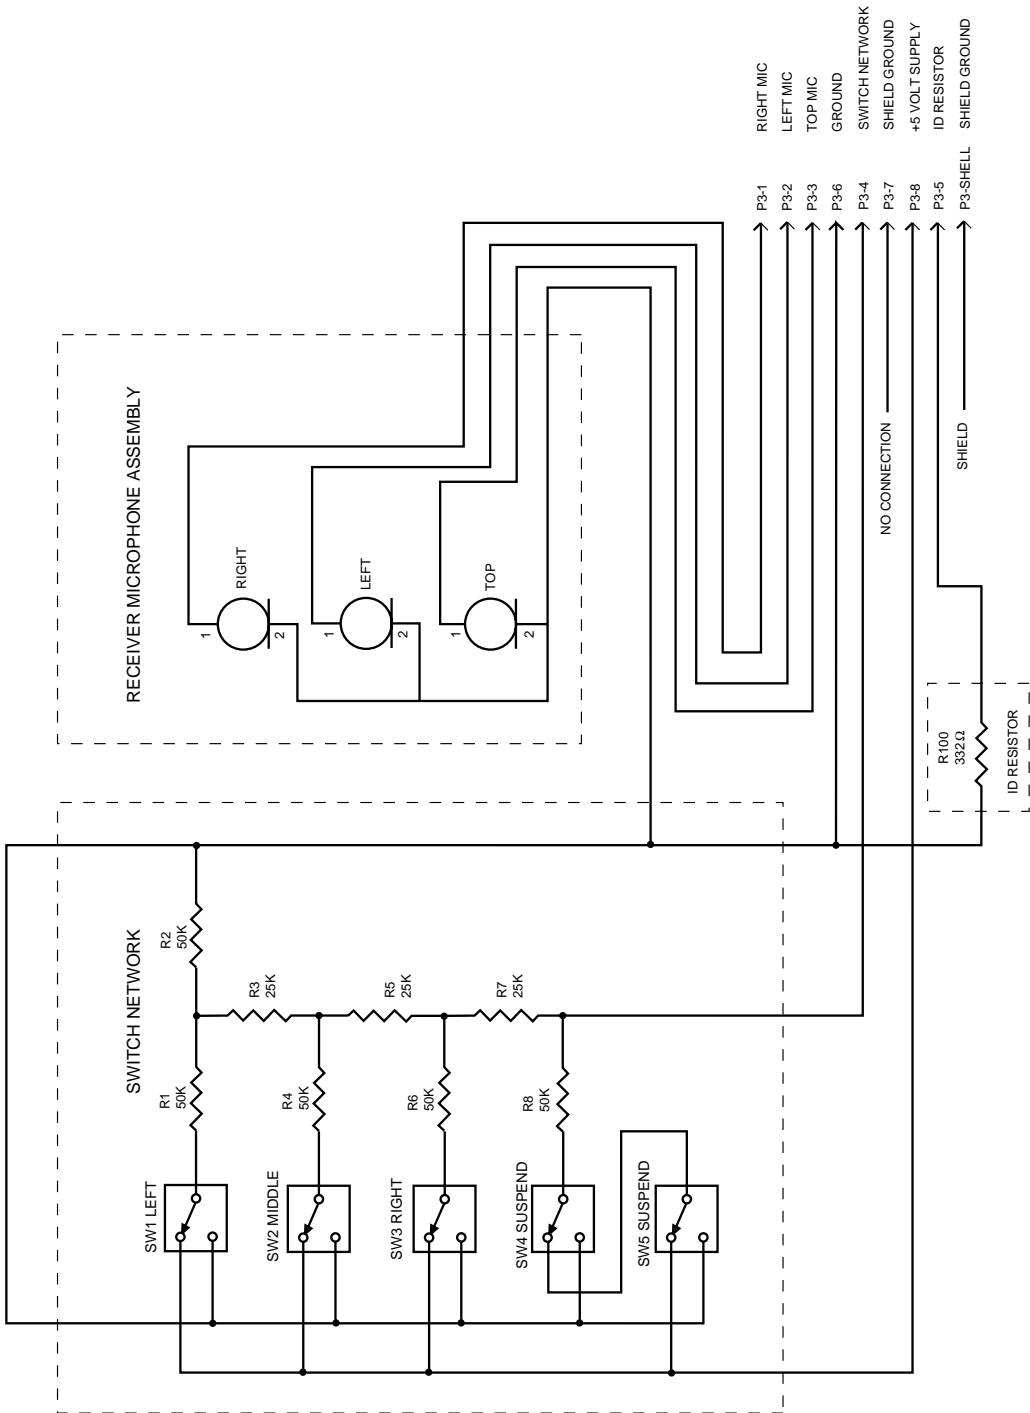

Figure B-2. 3D Mouse Assembly Schematic
- See the provided 3D Mouse assembly schematic (Figure B-2).